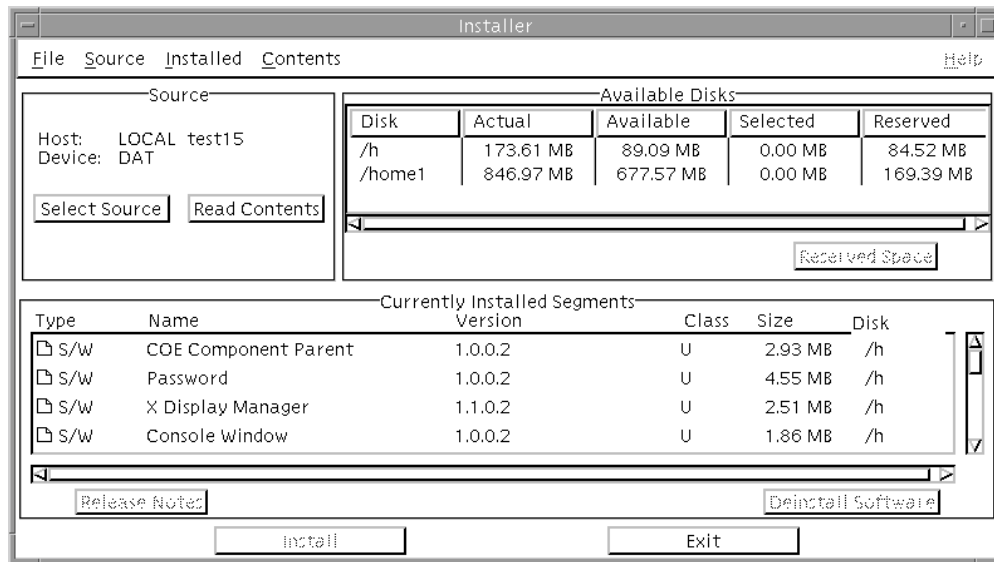

Figure 1. Installer Window
STEP 4: Select the segment Installer option. Select the Segment Installer option from the Software pull-down menu. The Installer window appears (Figure 1).